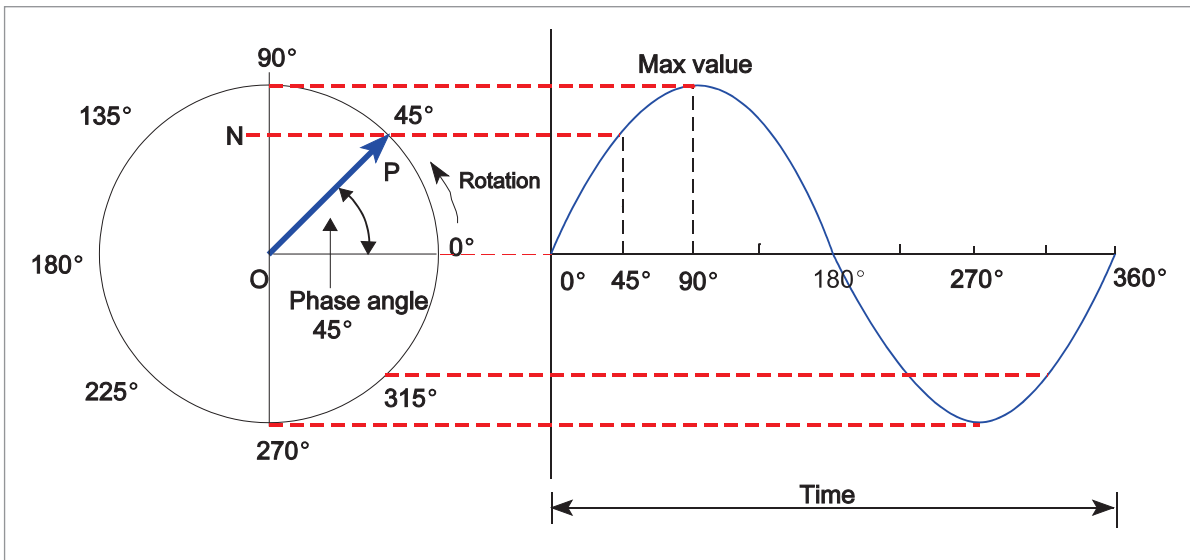

Figure 11.3 Production of a sine wave
Figure 11.3 illustrates the production of AC. The blue vector arrow OP represents one half of the coil of the generator, pivoted at O and rotating in an anti-clockwise direction. The EMF induced in the coil is proportional to the ordinate ON, or can be calculated by multiplying the max value by the sine of the Phase Angle at that point.
Several terms are used to describe alternating current, illustrated in Figure 11.3 and some of these terms are explained below:
- **Cycle.** A cycle is one complete series of values, e.g. the graph of Figure 11.3